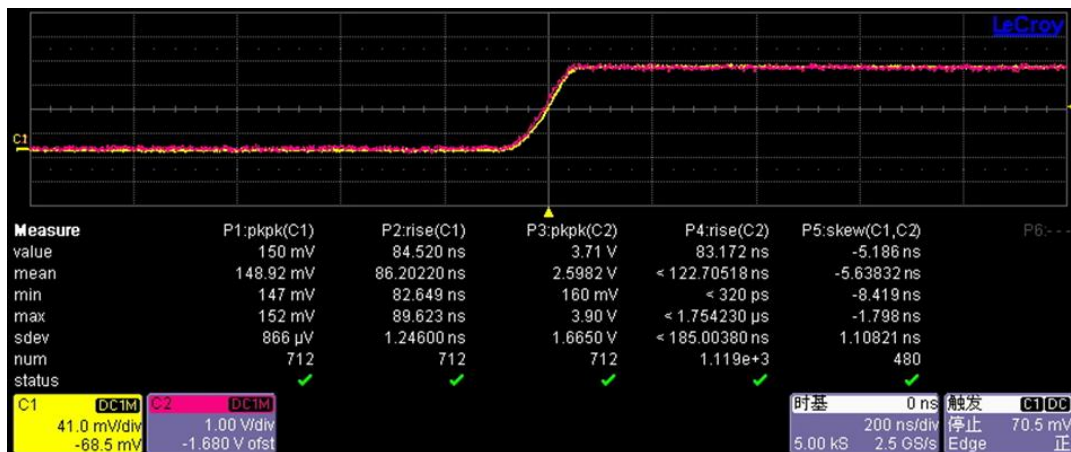

Figure 3: HCP8000 series & DP6000 series Skew time measurement
- ✧ Use the Skew function between the Channel 1 and 2 of the oscilloscope and measure the Skew time as shown by Fig 3 below.